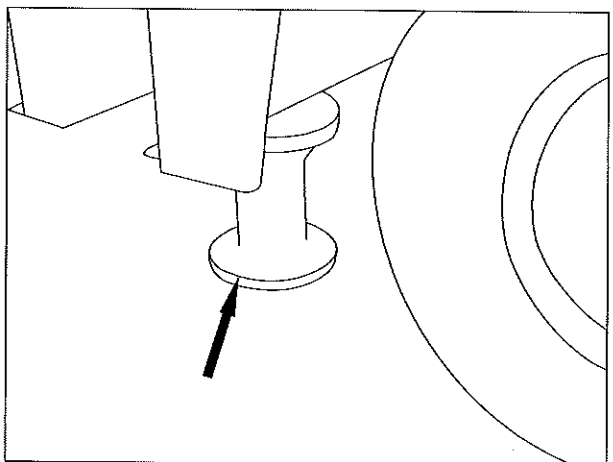

Fig.2-42
- Use boosters like various spanners or plus drive to disassemble connecting parts. See Fig.2-42. For the tightening torque of bolts, see Table 5-1 on page 5-6 and Table 5-2 and Table 5-3 on page 5-7.